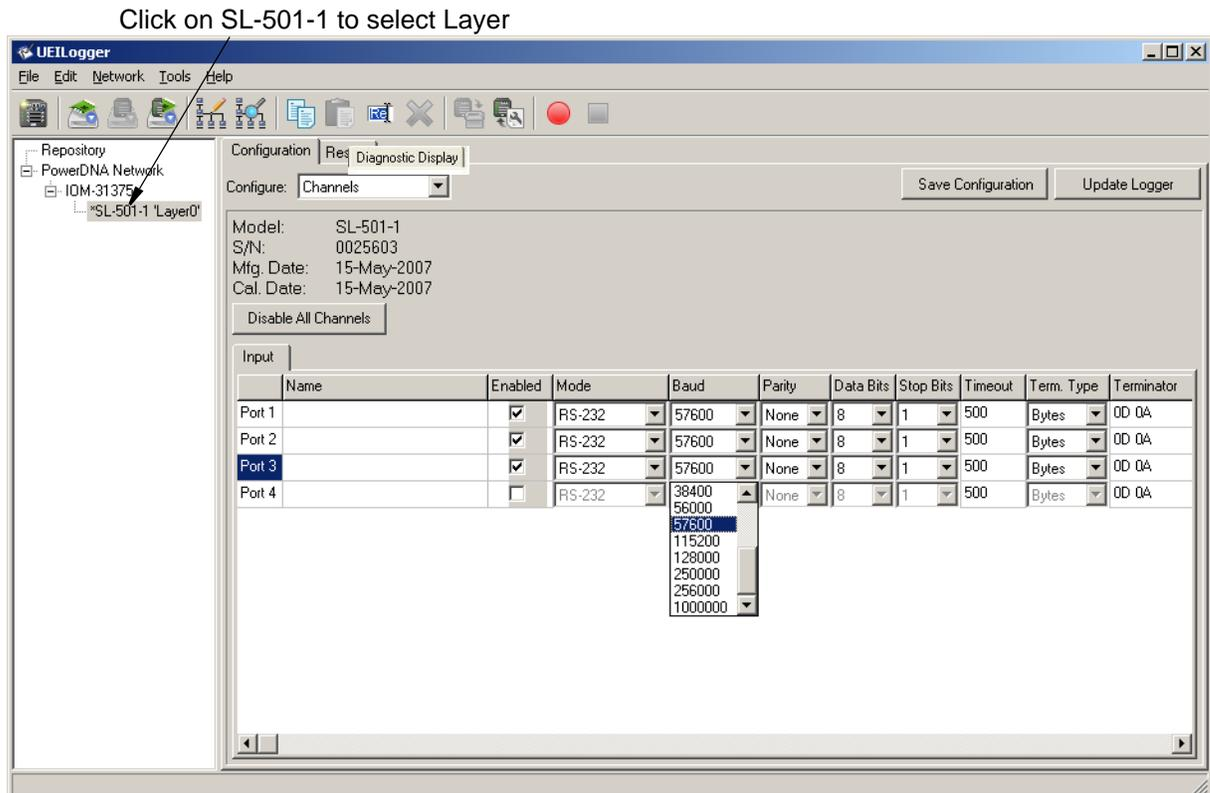

Figure 2-35 Configuring the SL-501 Ports
- STEP 1:** In the left window of the Logger screen, click on the Layer marked SL-501-1. Then, in the right hand window, click on the *Configuration* tab. In the *Configure* box, pull down the menu and select *Channels*. The screen shown in **Figure 2-35** then appears.